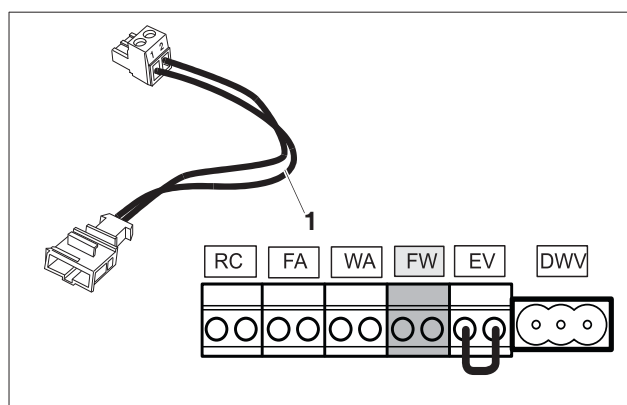

fig. 49 Terminal strip - DHW temperature sensor (connection colour grey)
- Connect the DHW temperature sensor to the grey FW terminal (fig. 49), using the harness enclosed with the DHW temperature sensor (fig. 49, **item 1**).